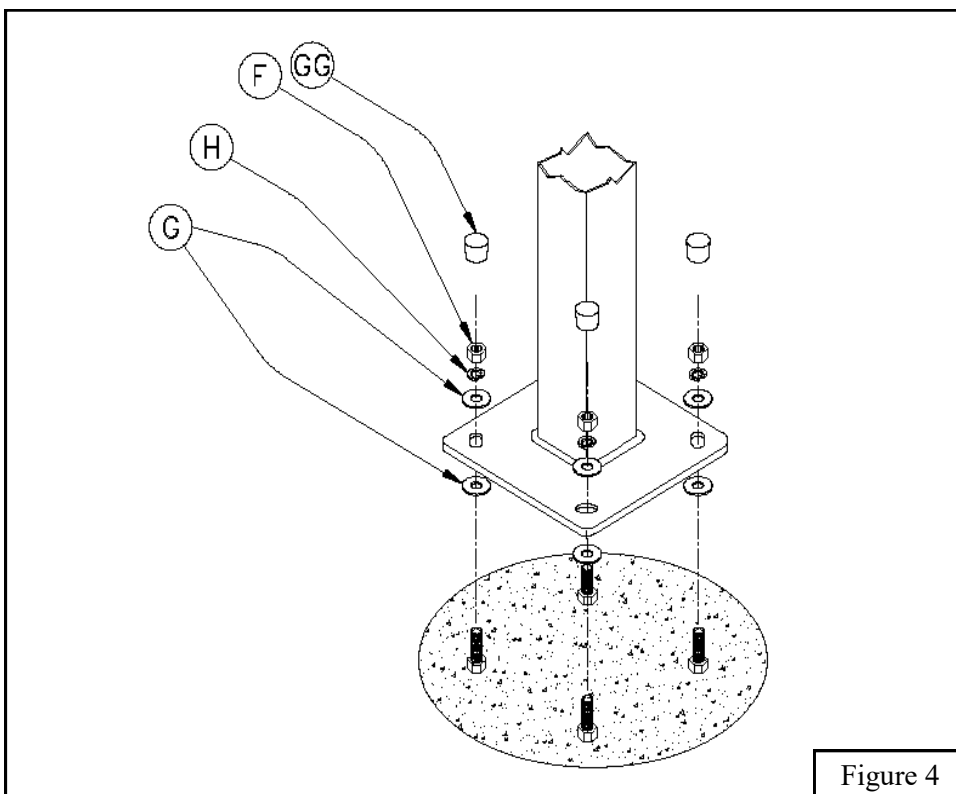

Figure 4
- 8b. Drop four 36" Rebar (EE) into the wet concrete to help support the concrete footing.
- 9b. Insert the "J" bolt assembly into the wet concrete. Be sure the *Template* (FF) is parallel to the desired position of the backboard and the edge of the playing surface. Use the tape measure to double check. Vibrate the assembly as you insert it so that concrete fills in around the "J" Bolts (DD). Be sure the *Template* (FF) is pressed firmly against the surface of the wet concrete. The top of the concrete footing should be flush with the playing surface.
- 10b. Clean excess concrete from edge of hole and level the concrete from the edge of the *Template* (FF) to the edge of the hole. **Allow concrete to cure for 4 days.**
- 11b. Once the concrete is cured you may now remove the upper 5/8" Hex Nuts (F) from the "J" Bolts (DD) and remove and discard the *Template* (FF).
- 12b. Place the 5/8" Hex Nuts (F) you just removed back on each "J" Bolt (DD) and finger tighten against the nut that is embedded in the concrete footing. Install one 5/8" Flat Washer (G) on top of each 5/8" Hex Nut (F). See Figure 4.
- 13b. Install the *Pedestal Base Pole* (B) over the "J" Bolts (DD). Place 5/8" Flat Washers (G), 5/8" Lock Washers (H) and 5/8" Hex Nuts (F) on "J" Bolts (DD) above the pole base to tighten base down. You can level pole if needed by adjusting the 5/8" Hex Nuts (F) above and below the base plate. Make sure all hardware is tight once leveled. Press "J" Bolt Safety Caps (GG) over the exposed ends of "J" Bolts (DD). See Figure 4.
- 14b. **Install the Warning Label (HH) at eye level on the rear of the pole.**